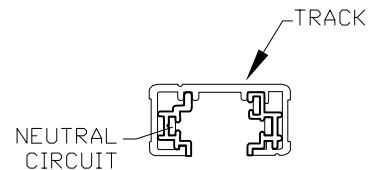
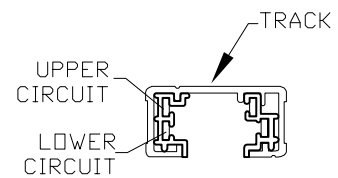

FIG. 4
FIG. 5
2. If using two circuit track (FIG. 5) position MOVABLE contact to desired position. Raise contact for upper circuit using a flat blade screwdriver until contact stops against plastic. Leave contact in lower position for lower circuit of two circuit track and for installation in single circuit track (FIG. 4).